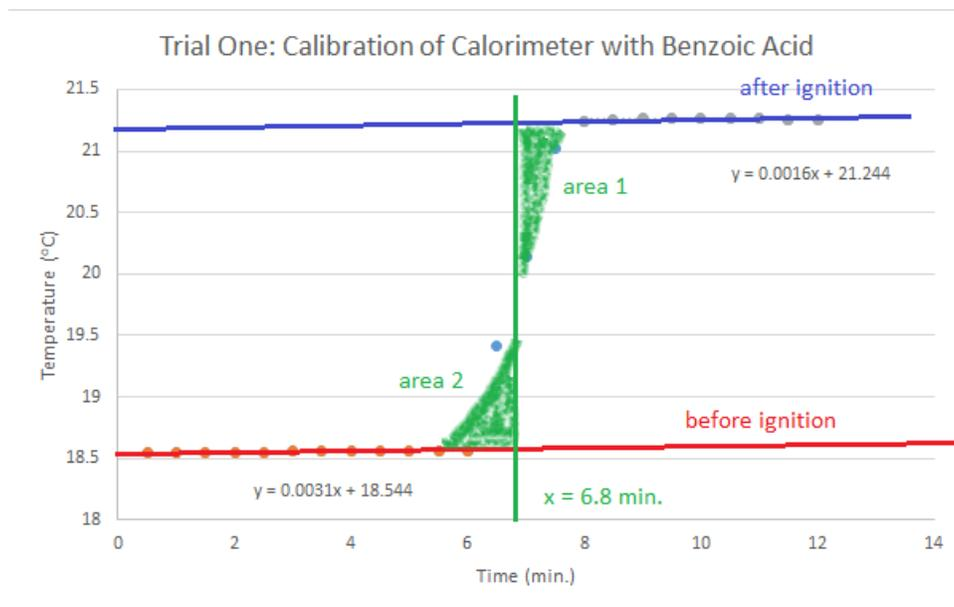

Figure 4: Finding initial and final temperature graphically
4. Using a ruler and a pencil, extrapolate both trendlines to the edges of the graph. Then turn the ruler vertically and draw a line that intersects both extrapolated trendlines in such a way that the area of the upper and lower triangles created by the line, the trendline, and the curve itself have approximately the same area (Fig. 4). Continue this line down to the x-axis and estimate the value.